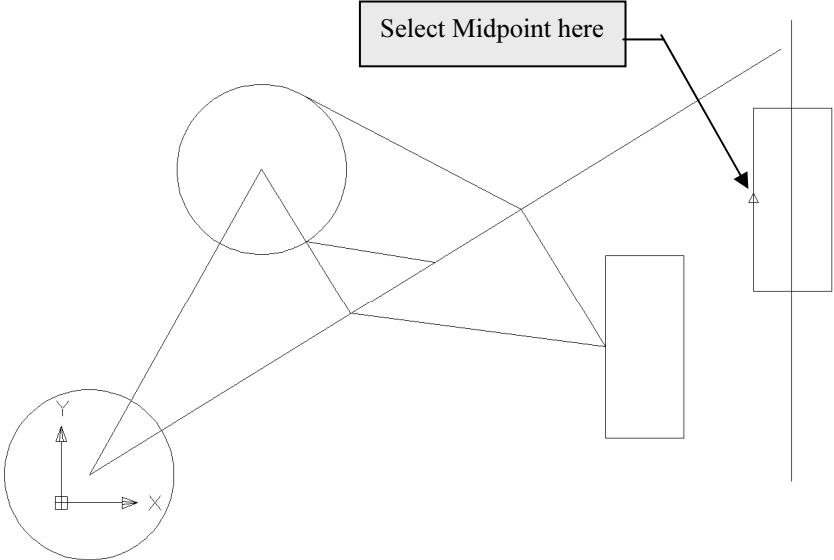

Figure 2-3.6 Rotate command. First Step - Select midpoint of vertical line on left.
17. Pick the *Midpoint* of the vertical line on the left side of the rectangle (**Figure 2-3.6**).